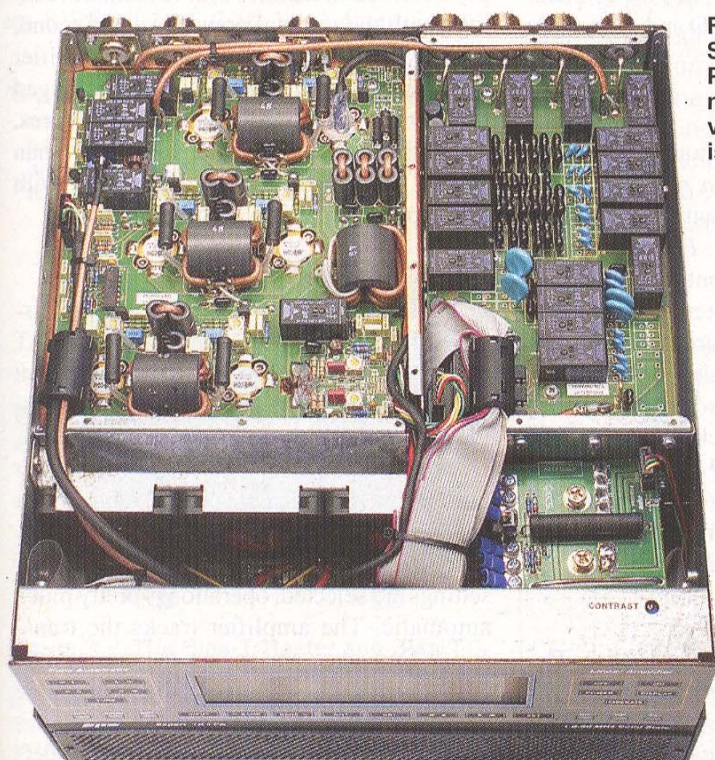

Figure 1 — Inside the SPE Expert 1K-FA. The PA module and output network assembly are visible. The power supply is underneath.
Figure 1 shows part of the interior. The power amplifier (PA)